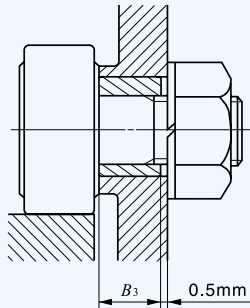

Fig. 4 Length of the mounting hole of Eccentric Type Cam Follower
- ⑤ In case of Eccentric Type Cam Followers (CFE), the length of the mounting hole should be more than 0.5 mm longer than the dimension B_3 (Eccentric collar width) shown in the table of dimensions. (See Fig. 4.)